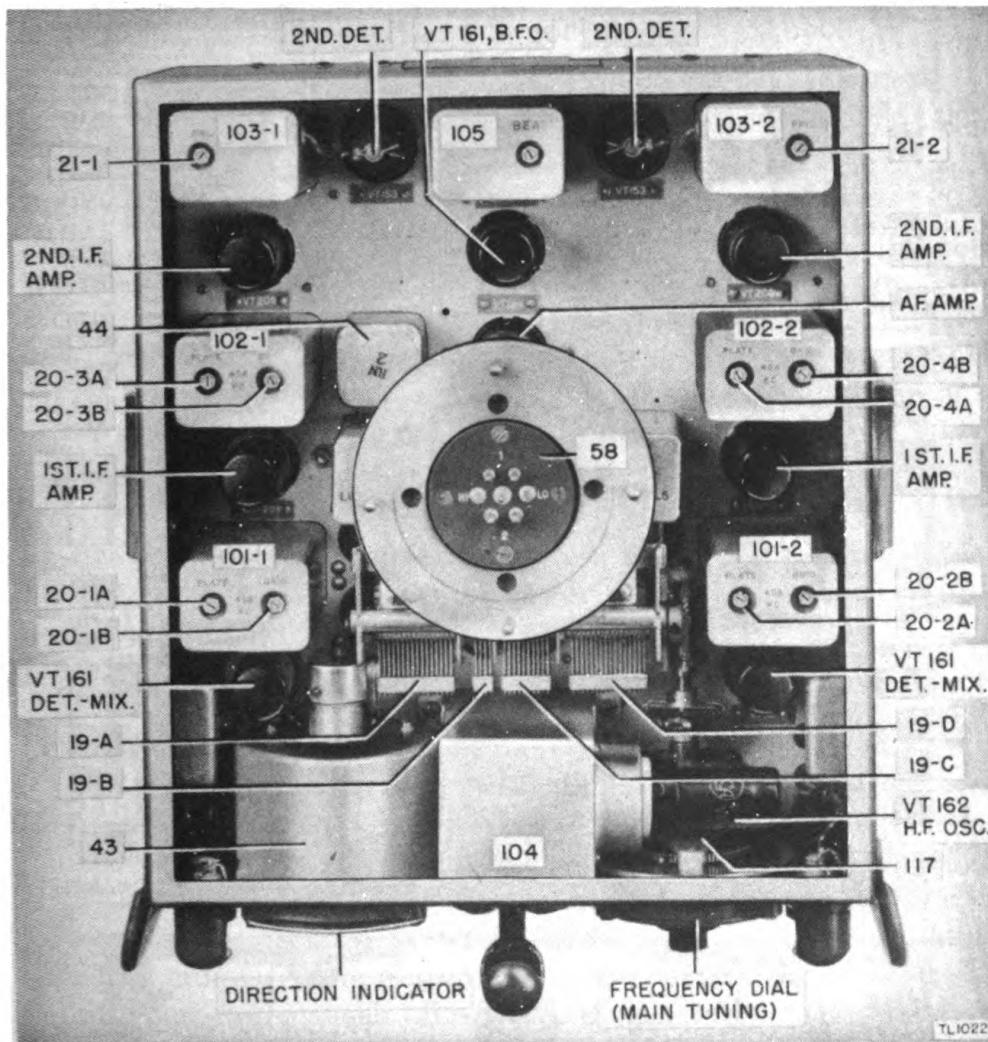

Figure 27. Radio Receiver BC-979-A, top view.
d. To remove commutator brushes.—(1) Remove the receiver from the mounting plate.
(2) Remove the bottom plate by unscrewing the four corner screws. To inspect, clean, or replace the six silver commutator brushes, unscrew the threaded brush holders from the square aluminum can mounted on the center of the chassis.
a. Alignment of Radio Receiver BC-973-A (fig. 27).
(1) Remove the loop, antenna handwheel, and the top cover as outlined in paragraph 24*a*.
(2) Connect commutator prong terminals marked HI together.
(3) Connect terminals marked LO together.
(4) Set signal generator to 458 kc and check with frequency calibrator or frequency meter.
(5) Connect hot side of signal generator to HI terminals of commutator.
(6) Connect low side of signal generator to the slide fastener latch stud on top of the commutator assembly.
(7) Set the SENSITIVITY control to approximately 8½ on its scale.
(8) Set switches on the front panel to following positions: